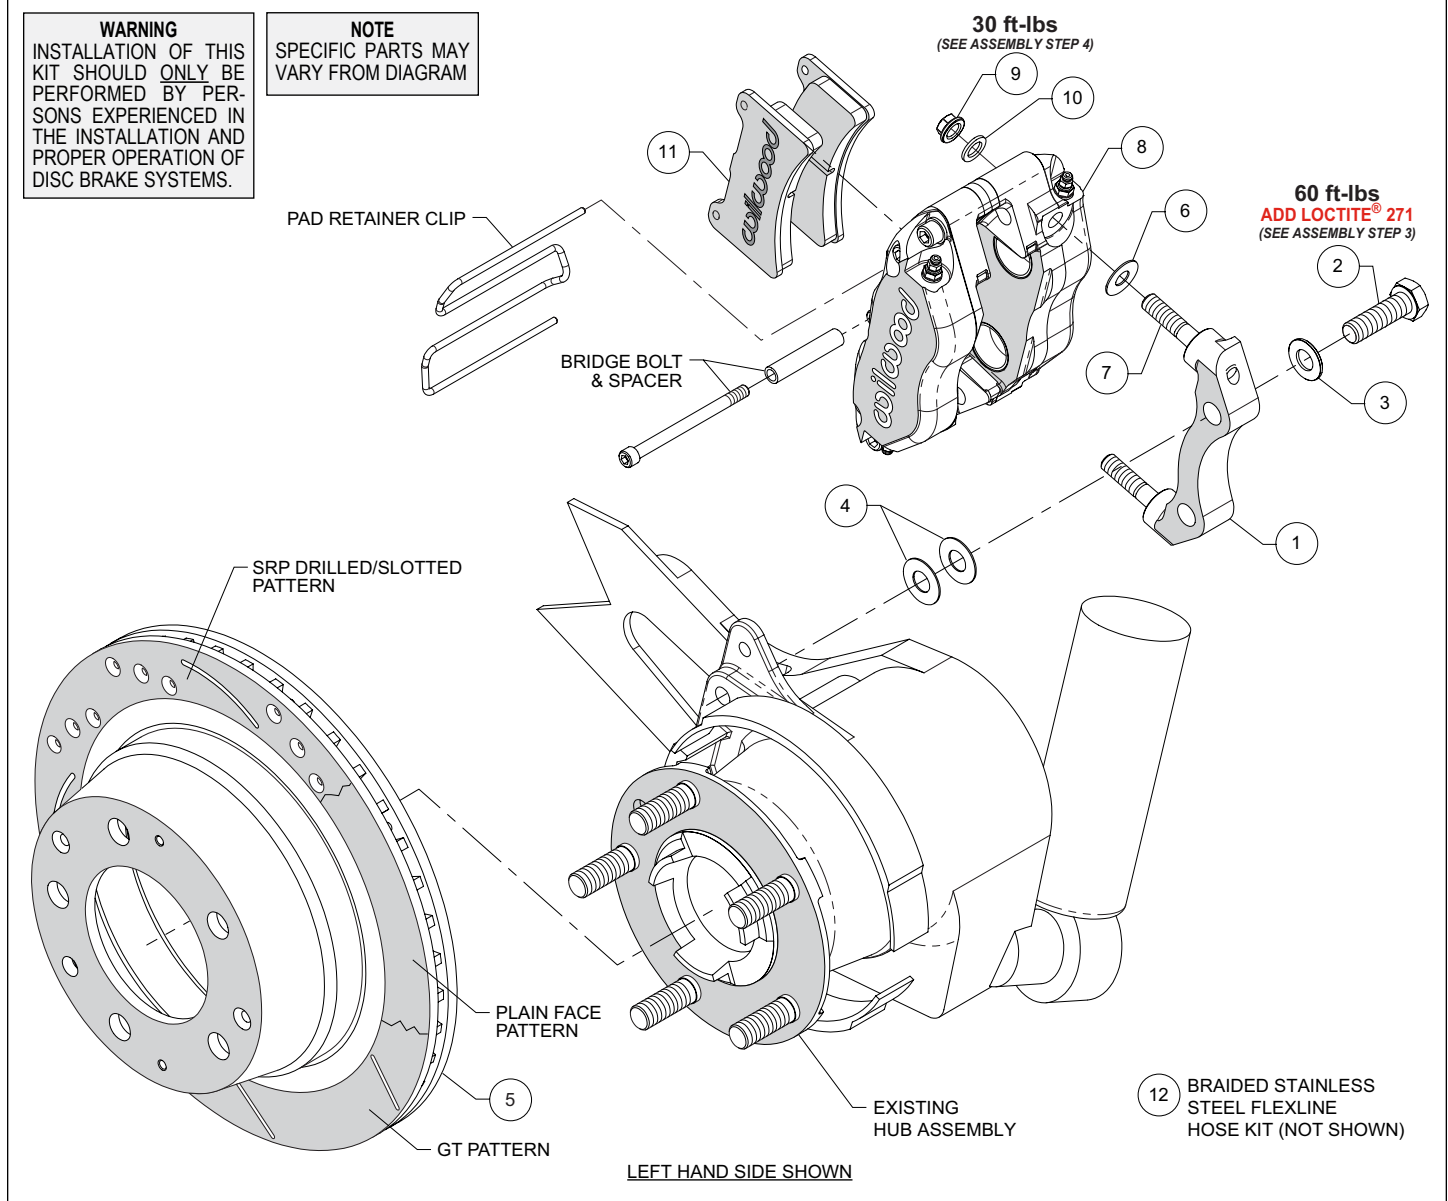

Figure 1. Typical Installation Configuration
NOTE: Numbers in parenthesis refer to the parts list and Figure 1 on the preceding pages.
STEP 1 The caliper mount bracket (1) should initially be installed with clean, dry threads on the mounting bolts. Orient the bracket, as shown in Figure 1 and Photo 1, and install using bolts (2) and washers (3). Initially place two .033" thick shims (4) on each bolt between the bracket (1) and upright, Figure 1 and Photo 2 (see arrows). Temporarily tighten the mounting bolts. **NOTE:** The bracket must fit squarely against the mount bosses on the upright. Inspect for interference from casting irregularities, machining ridges, burrs, etc.
STEP 2 For kits 140-16680 and 140-17002, install the Wilwood rotor (5) onto the hub assembly, Figure 1 and Photo 4.
STEP 3 Initially place one .035" thick shim (6) on each stud (7) between the caliper (8) and the bracket (1), as shown in Figure 1 and Photo 3. Mount the caliper (8) onto the bracket (1) using lock nuts (9) and washers (10), Figure 1. Temporarily tighten the lock nuts. View the rotor through the top opening of the caliper. The rotor should be centered in the caliper, Photo 5. If not, adjust by adding or subtracting shims (4) between the bracket (1) and the upright. Always use the same amount of shims on each of the two mounting bolts. Once the caliper alignment is correct, remove the bracket mounting bolts (2) one at a time, apply red Loctite® 271 to the threads, and torque to value shown in Figure 1.
STEP 4 Remove the caliper pad retainer clip, bridge bolt and spacer from the caliper, Figure 1. Insert the brake pads (11) into the caliper, with the friction material facing the rotor, Photo 6. Check that the top of the brake pad is flush with the outside diameter of the rotor, Photo 7. If not, adjust by adding or subtracting shims (6) to the stud between the caliper (8) and the caliper mount bracket (1). After the caliper pad height is set, torque the caliper lock nuts 9) to value shown in Figure 1. Secure the brake pads in place with the pad retainer clip and reinstall the bridge bolt and spacer.
STEP 6 Attach supplied brake line to caliper. **NOTE:** OEM rubber brake hoses generally cannot be adapted to Wilwood calipers. Install Wilwood's stainless steel braided flexline hose kit (12), P/N 220-16710 included with this kit, as shown in Photo 9. The caliper inlet fitting is a 1/8-27 NPT. Use the included steel adapter fitting at the caliper (use PTFE tape on the pipe threads of adapter fitting for proper sealing to caliper). **Ensure hoses are routed to prevent contact with moving suspension, brake or wheel components.**